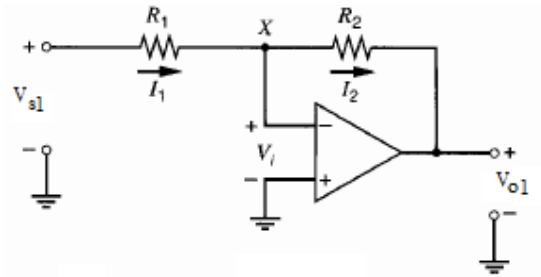
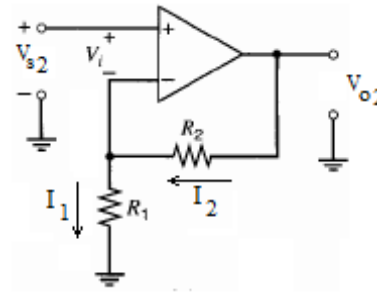

Fig. 22.
Fig. 23.
- 1.The output attempts to do whatever is necessary to make the voltage difference between the inputs zero (in Fig. 22 and Fig. 23,  $V_i = 0$ ).
Fig. 22 shows an inverting amplifier build with an op amp. Considering we have an ideal op amp. First, because no current enters in the "-" input, at the nod X we can write:
This is the relationship between the output voltage and the input voltage for an inverting amplifier build with an op amp. A similar calculation can be done for the noninverting amplifier build with an ideal op amp (Fig. 23). The same, for Fig. 23: